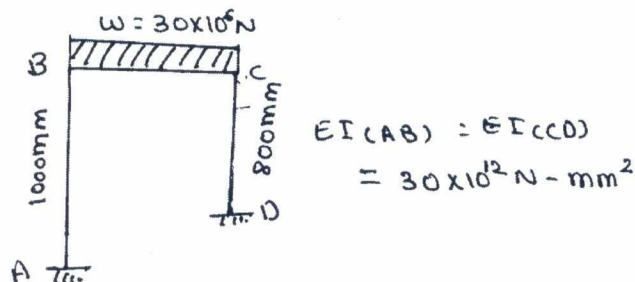

Fig. Q8 (b)
- b. Calculate the natural angular frequency in sideway for the frame in Fig. Q8 (b) and also the natural period of vibration. If the initial displacement is 25 mm and the initial velocity is 25 mm/s, what is the amplitude and displacement at $t = 1$ sec. (08 Marks)